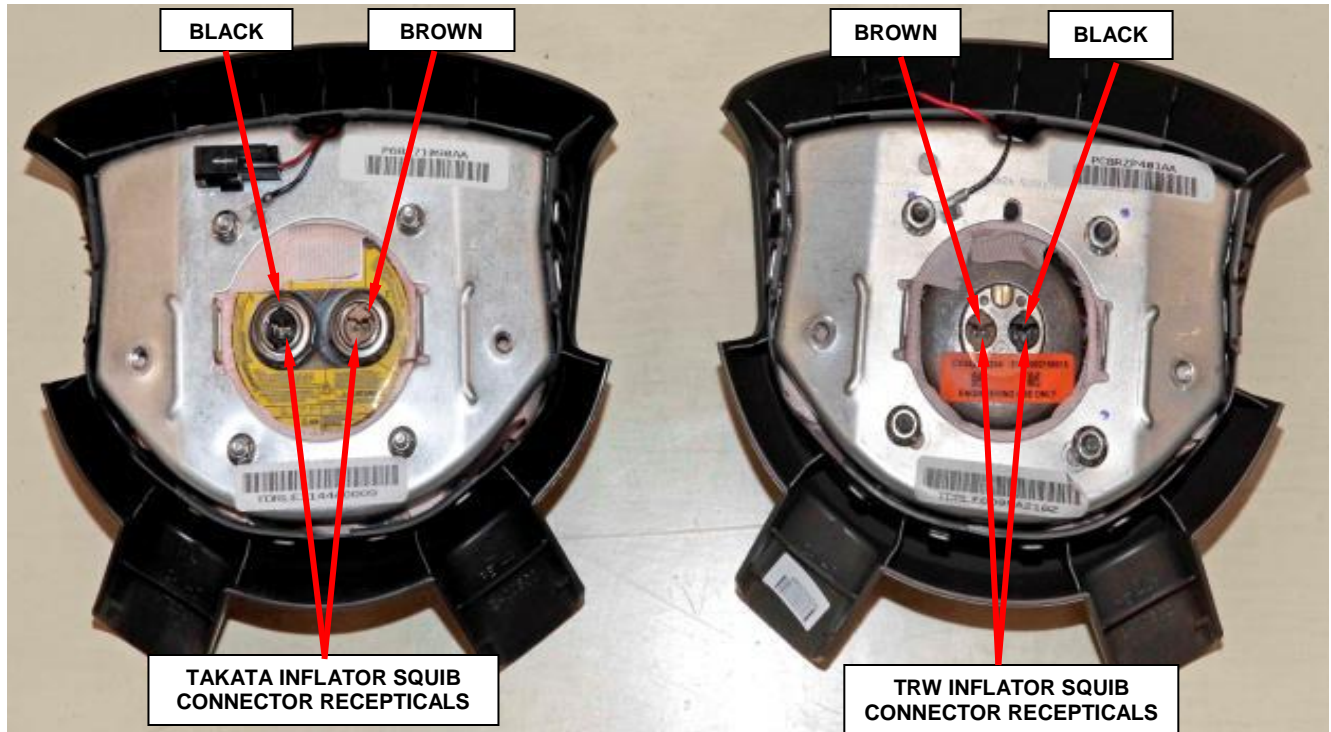

Figure 14 – Squib Connector Receptacles
24. Connect the two driver airbag squib connectors to the driver airbag inflator assembly connector receptacles by pressing straight in on the connector. Be certain to engage each keyed and color-coded connector to the matching connector receptacle (**See figure 14 and note on page 15**). Be certain that each connector is fully engaged in its receptacle by listening carefully for a distinct, audible click as the connector latches snap into place (Figure 3).
NOTE: The squib connector receptacle locations on the driver airbag inflators are switched between the original Takata inflator and the TRW replacement inflator kits. Squib connectors are keyed and color coded for error proofing (Figure 14).